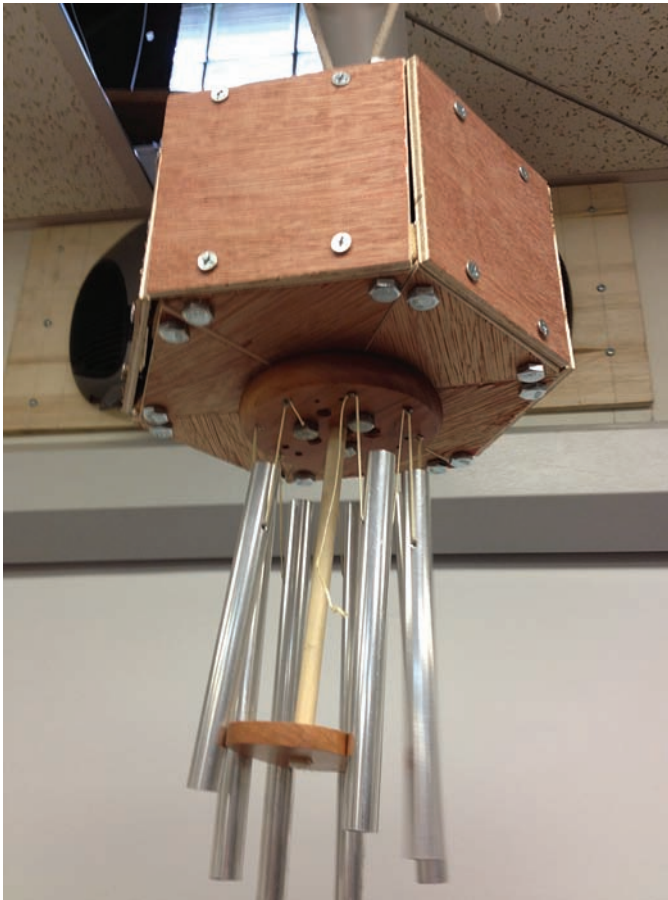

FIGURE 11.21 The wind chimes are completed and ready to make noise!
14. Finish up by screwing the side panels onto the bottom hexagon. As a final step, glue the clapper onto the end of the dowel (see Figure 11.21).